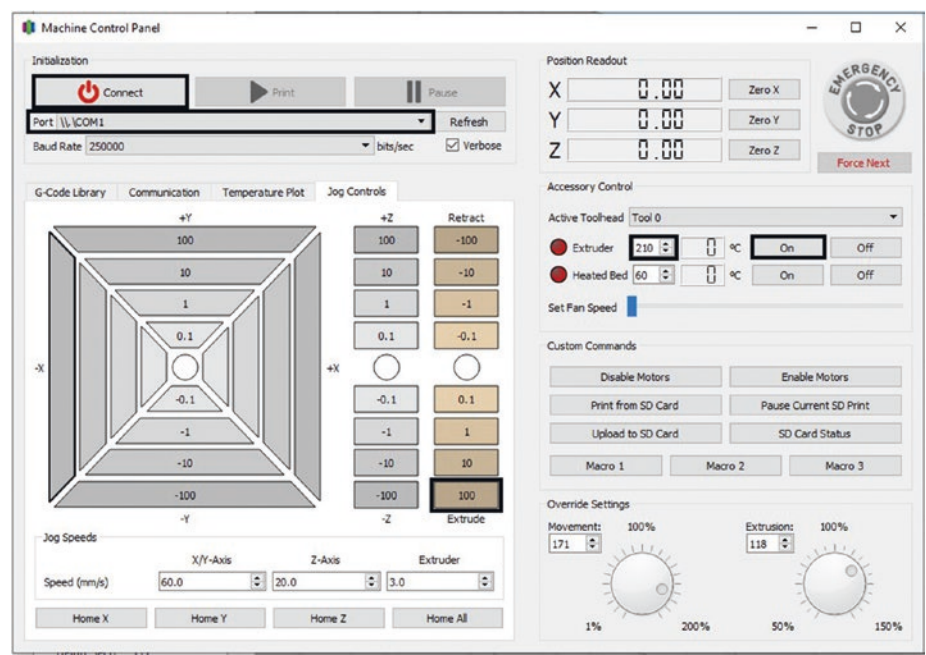

Figure 4-35. Open the machine control panel to control your printer
- 4. Extrude 100mm of material using the machine control panel (also, make sure your extruder is heated up; otherwise, the extruder will not extrude); you will also need to have the printer connected to your computer for this process. See Figure 4-35.